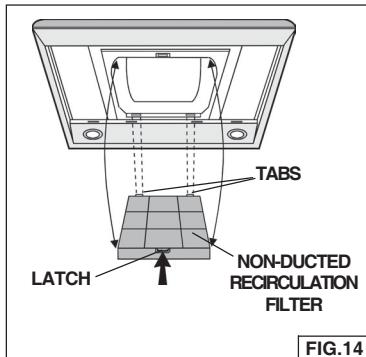

FIG.14
1. To remove the CHARCOAL filter, push-in on the front filter latch. Pull the filter down to disengage the rear filter tabs. Fig. 14